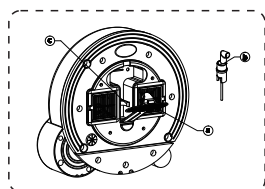

Fig.9.2.1
- As showed in Figure 9.2.1, open the nebulizer grid, remove the nebulizer cup from the C clip. If the operator is skilled at this process, he/she could also follow the second step without taking the cup off.